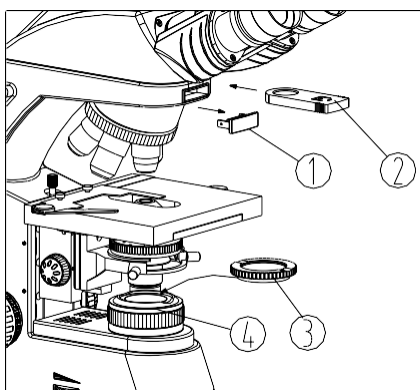

Fig. 40
(1) Simple polarizing includes analyzer② and polarizer③ (see Fig. 40).
(2) Unplug analyzer dust-cover① from the arm, and insert analyzer② face up.
(3) Put the polarizer③ into the condenser④ groove as the figure shows.
(4) Rotate the polarizer③ can change the orthogonal status of polarization.